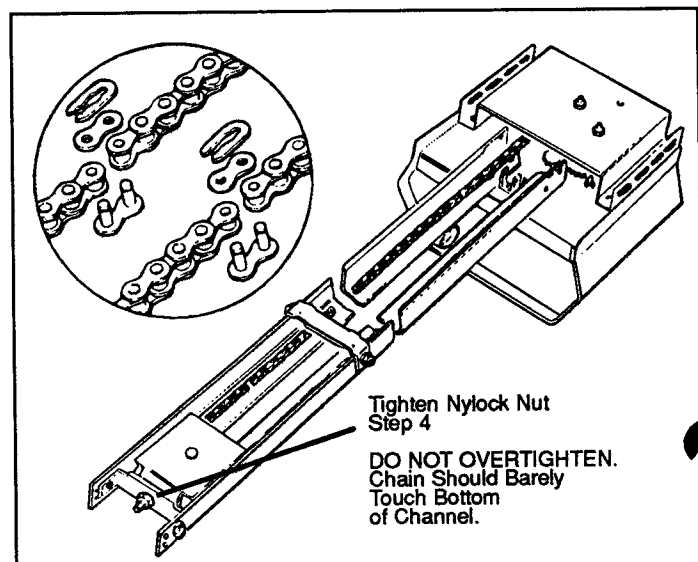

Figure 3
Step 3: Locate two each chain master links. Connect the two chain ends on the operator head to the two chain ends of the channel assembly. Make sure there are no kinks and that the chain is properly oriented. After connecting the chain ends, remove the tie holding the operator head chain (see Figure 3).
Step 4: At the channel end, turn T-bolt nut to tighten chain. Adjust nut (do not overtighten) until chain barely touches bottom of channel (see Figure 3).